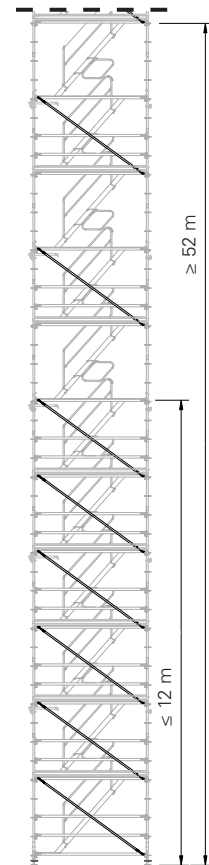

Fig. A7.06
- Fit Ledger Braces UBL-2 in the lower levels in accordance with Section "Tie positions – installation heights" on page 48. (Fig. A7.06)